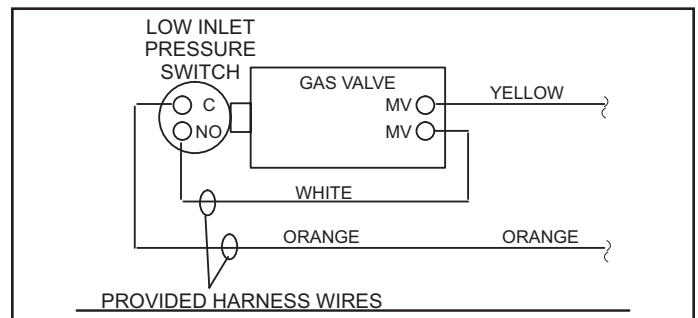

Figure 2. Low Inlet Pressure Switch Point-to-Point Wiring Diagram
10. Thread pressure switch to brass fitting 2 to 3 turns past hand tight, then wire as shown in Figure 2.